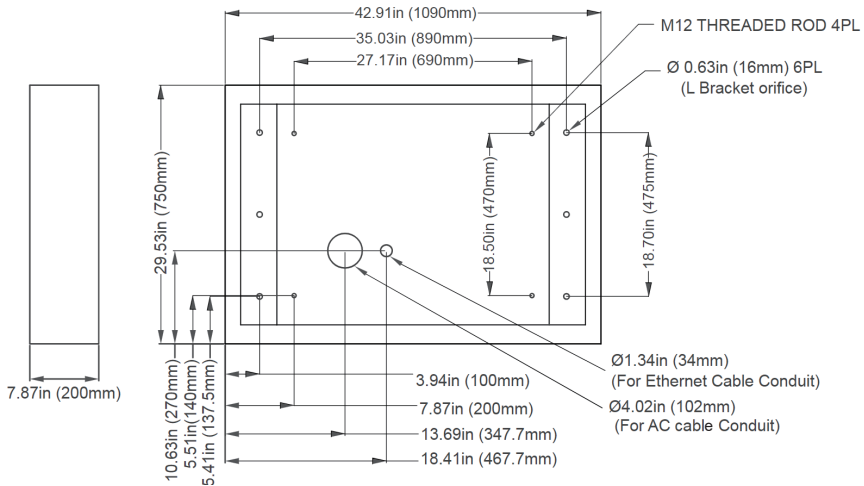
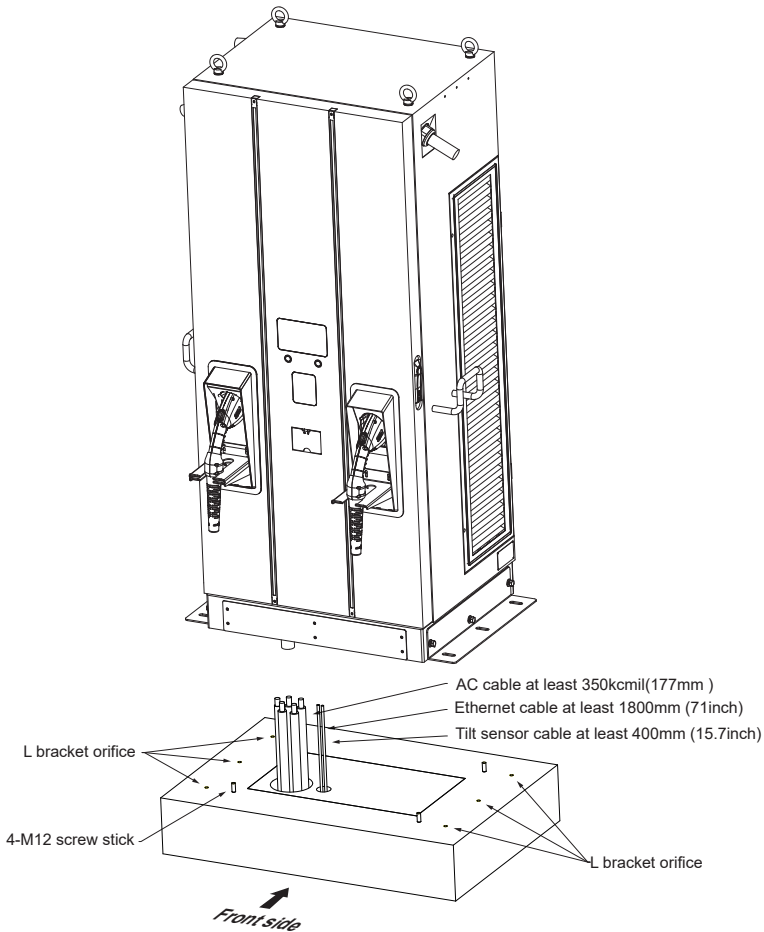

Figure 12. Installation Dimensions
Figure 13. Cable Throughput
See Figure 12 and Figure 13.
5) Attachment method 2: Drill six $\text{\O}0.63\text{in}$ ($\text{\O}16\text{mm}$) bolt holes to use the 2 L-brackets that come in the accessory pack. See Figure 12.
6) Extend the 3 phase 5 wire AC input cables from conduit of concrete base. See Figure 13.